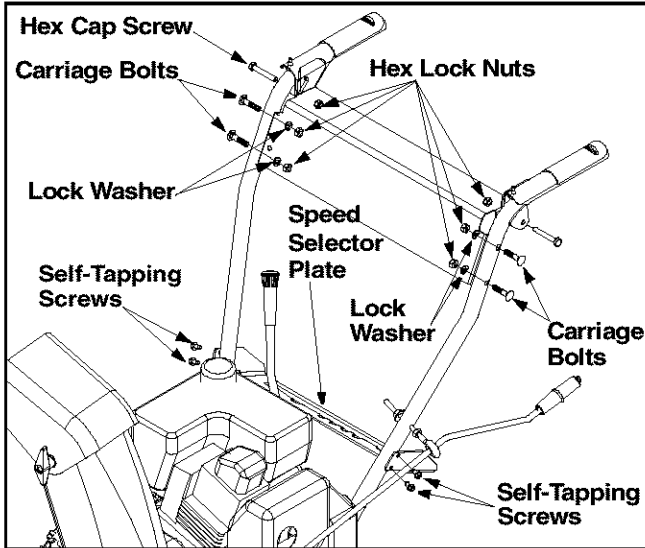

Figure 4
- Position the handle panel between handles and insert two carriage bolts on each side and secure with lock washers and hex patch nuts. See Figure 4.